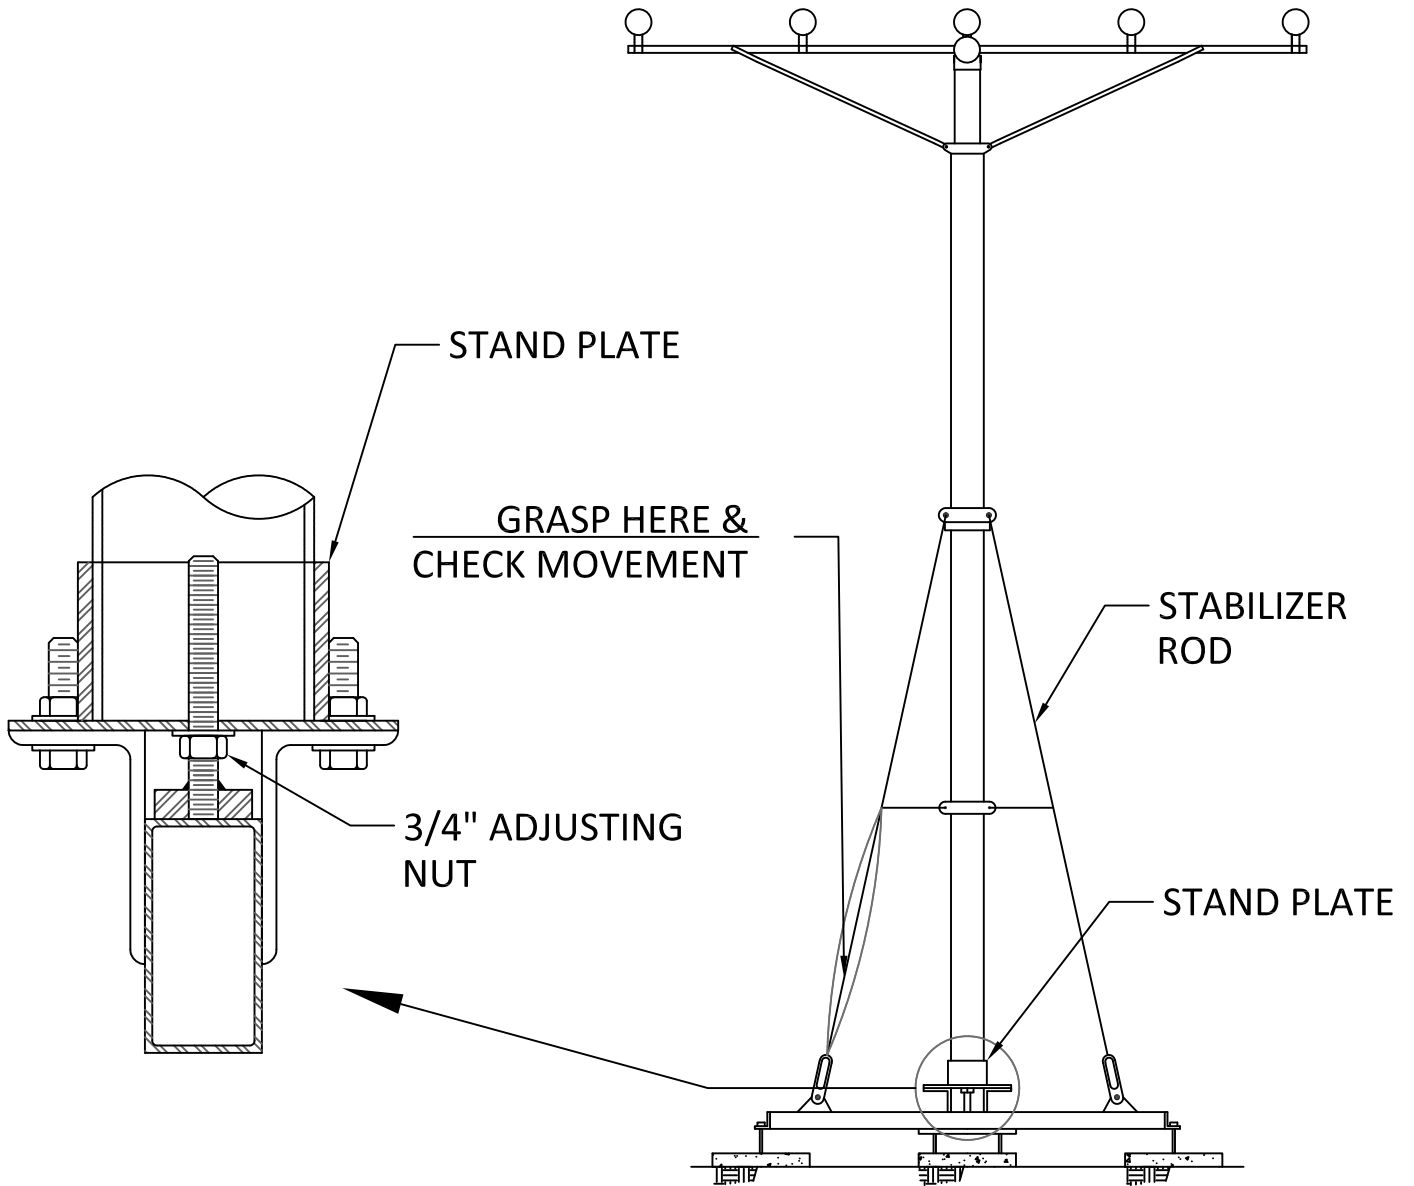

FIGURE 6-2
- B. Tension adjustments are made with the $\frac{3}{4}$ " nut located under the stand plate. (See Figure 6-2) Turn the nut a half turn clockwise to increase tension. Use a 1-1/8" open end wrench.